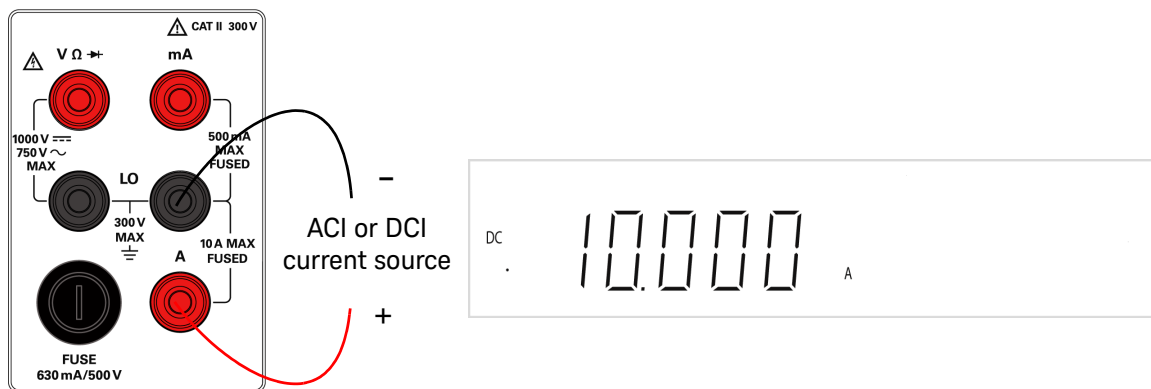

Figure 1-13 ACI RMS or DCI (10A) terminal connection and display
- 4 Connect the red and black test leads to the A input terminal as shown in Figure 1-13.